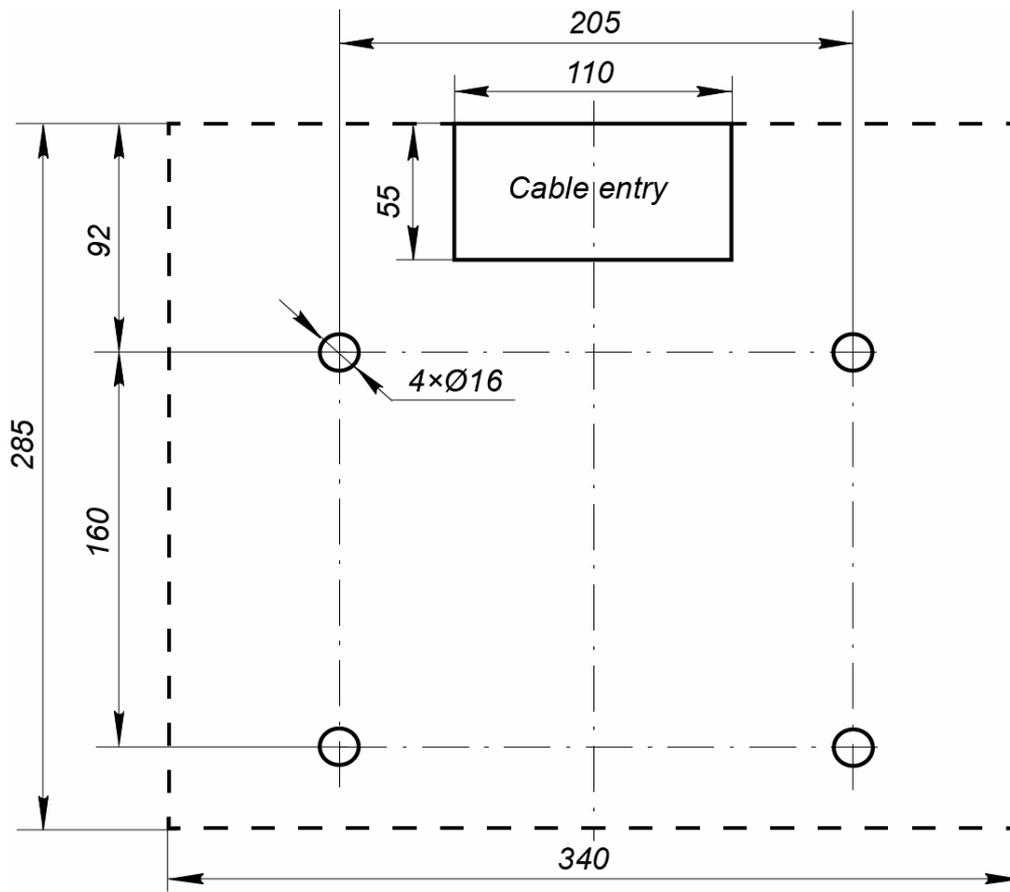

Figure 10. Floor anchor position and cable entries for housing installation (turnstile housing is dotted)
2. Make the holes for anchor bolt (15) sleeves for the turnstile housing installation (Fig. 10).
3. Install the turnstile power supply unit (9) in its place (see power supply unit certificate for installation procedure of the turnstile power supply).
4. If you lay out cables under the floor surface, make an electric raceway to the cables entry zone of the turnstile housing (shown in Fig. 10).